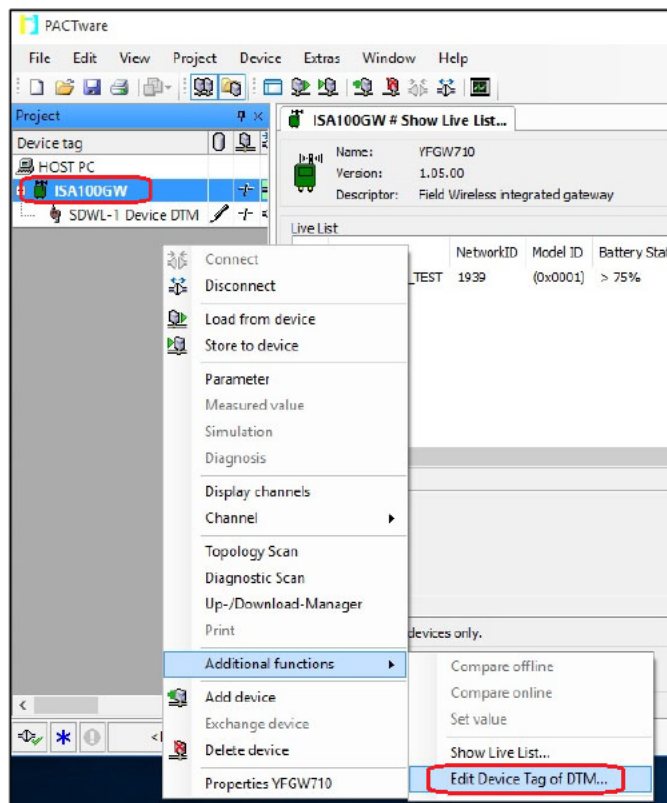

Figure 5-30 Selecting “Edit Device Tag of DTM...” menu
- ⑨ Next, right-click “ISA100GW” in the tree menu on the left side of the main window, then select “Edit Device Tag of DTM...”. (Figure 5-30)